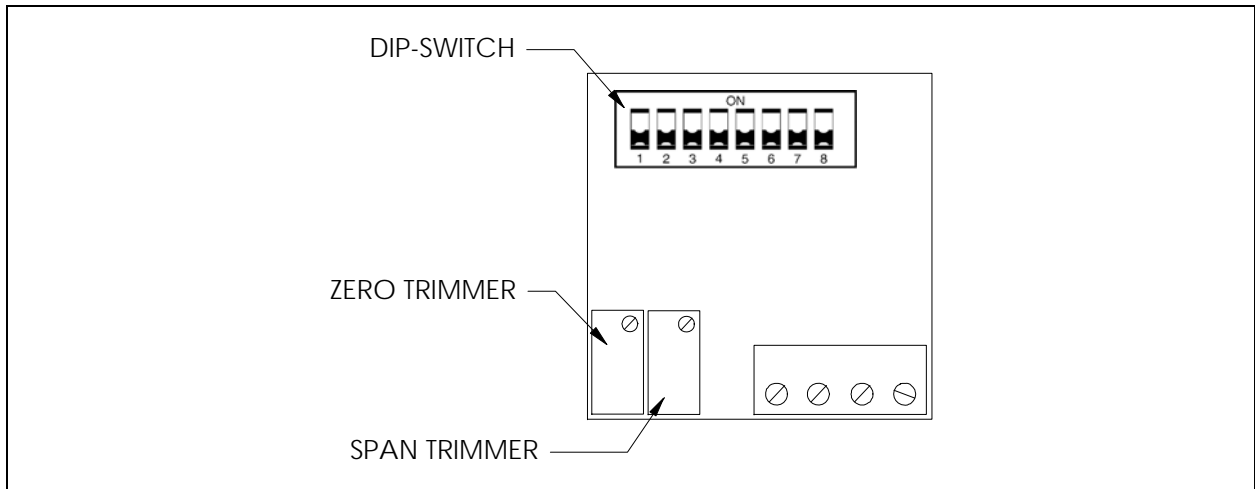

Figure 5-6: Back view of Gas Concentration Display
2. Set Zero and Span trimmers fully clockwise, refer to Figure 5-6: Back view of Gas Concentration Display